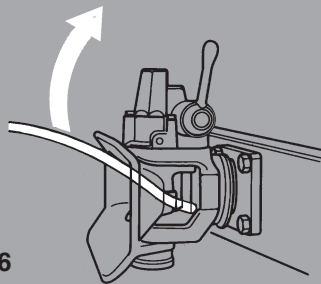

Fig. 6
- Move coupling head up and down with appropriate tool (see Fig. 6):